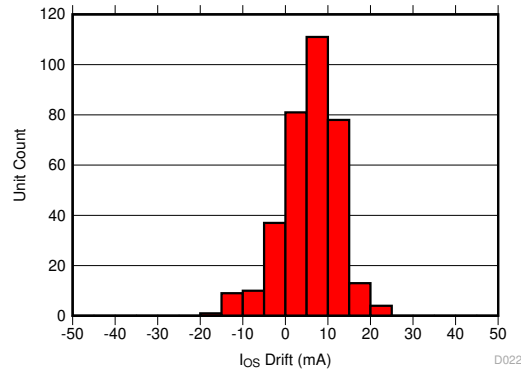

Figure 9-8. Input-Referred Offset Drift After AEC-Q100 High Temperature Operating Life Stress Test
The same compensation techniques used in the TMCS1101 to reduce temperature drift also greatly reduce lifetime drift due to aging, stress, and environmental conditions. Typical magnetic sensors suffer from up to 2% to 3% of sensitivity drift due to aging at high operating temperatures. The TMCS1101 has greatly improved lifetime drift, as defined in the Electrical Characteristics for total sensitivity error measured after the worst case stress test during a three lot AEC-Q100 qualification. All other stress tests prescribed by an AEC-Q100 qualification caused lower than the specified sensitivity error, and were within the bounds specified within the Electrical Characteristics table. Figure 9-6 shows the total sensitivity error after the worst-case stress test, a Highly Accelerated Stress Test (HAST) at 130°C and 85% relative humidity (RH), while Figure 9-7 and Figure 9-8 show the sensitivity and offset error drift after a 1000 hour, 125°C high temperature operating life stress test as specified by AEC-Q100. This test mimics typical device lifetime operation, and shows the likely device performance variation due to aging is vastly improved compared to typical magnetic sensors.